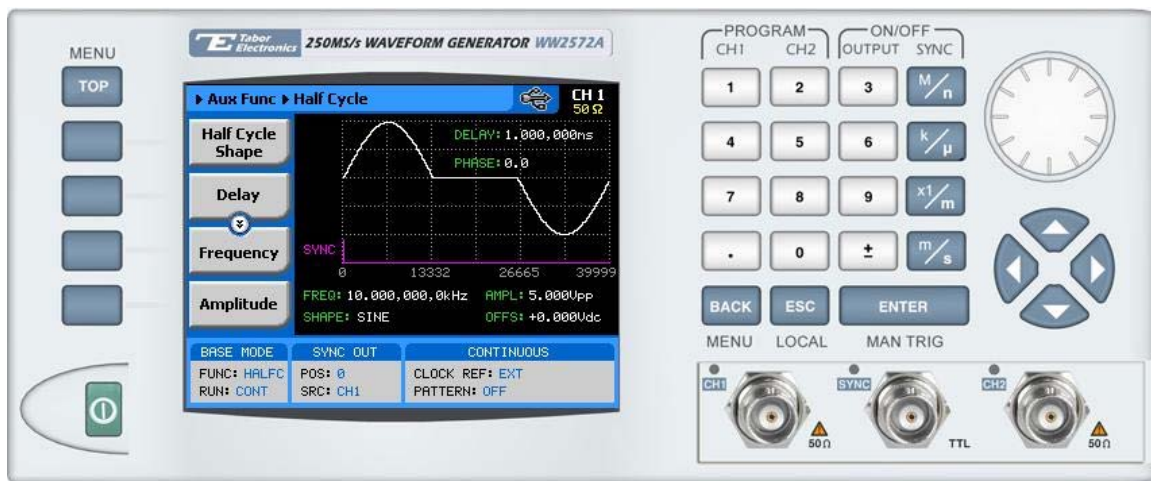

Figure 3-63, the Digital Pattern Menus
5. Press the Enter button to select the half cycle function Figure 3-63 shows the half cycle panel and menus.